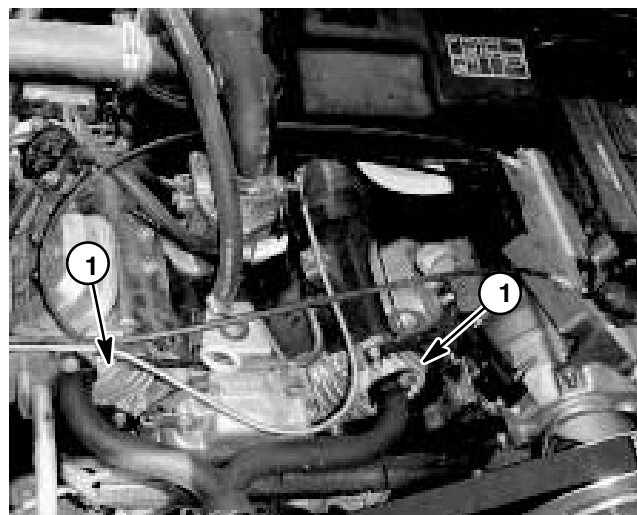

Figure 13
3. Clean cooling fins on both cylinder heads (Fig. 13).